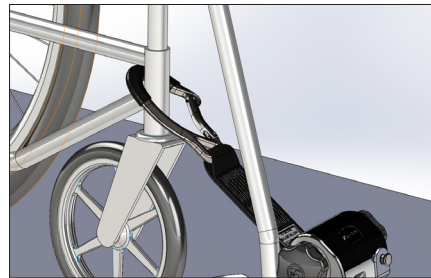

Figure 13
3. Extend the webbing and attach the karabiner, (Fig. 12C), around the wheelchair's securement point with the opening gate facing outboard, (Fig. 13). Some wheelchairs will indicate the securement points, (Fig. 4).